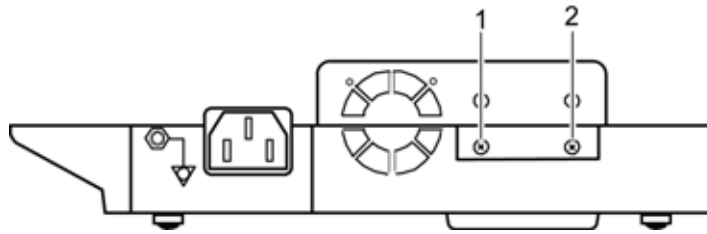

Figure 32: Fan Bracket Removal
4. Remove the two screws holding the fan bracket to the bottom case. See Figure 32.